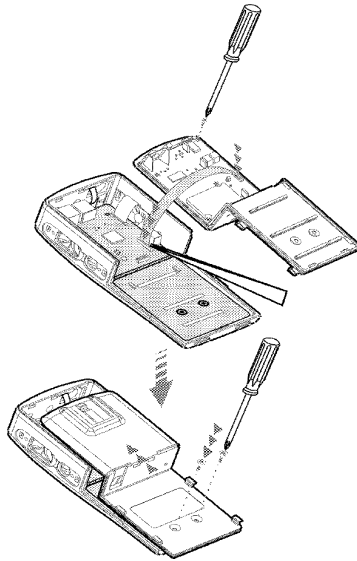

Figure 3-5 • Replace Radio's Chassis
- a. Slide the chassis upwards to properly fit into the housing and press the bottom of the chassis firmly into place (Figure 3-5).